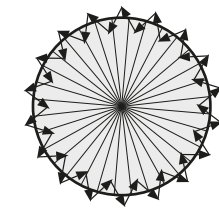

FIG.14
- Walk from outside across to the detection pattern until Load turns on for approx. 5sec then off, the next trigger should be Load OFF (See FIG.14).